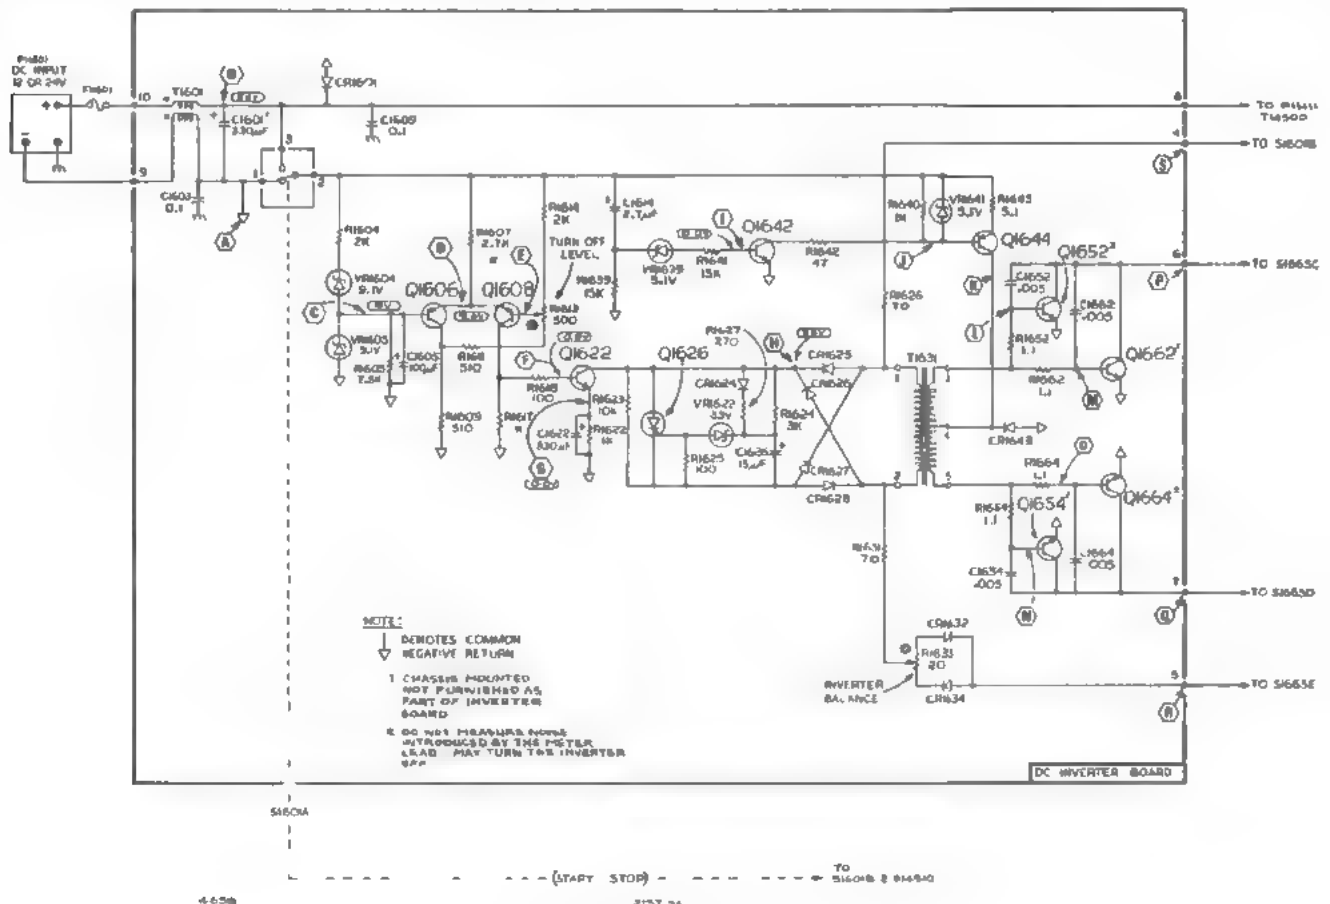

Figure 6-9. 465B Option 07 DC Inverter.
Option 07 is a dc-to-ac inverter operating on 12 or 24 volts dc. The operating frequency of the inverter is approximately 400 Hz. The following circuit description is for 24-volt operation unless noted otherwise. Refer to the schematic diagrams (Figures 6-9 and 6-10) throughout the detailed circuit description.
For the following description, refer to Figure 6-9.
In the following procedures the reference letters (A), (B), etc., refer to points indicated on the schematic diagram (Figure 6-9) and circuit board illustrations.